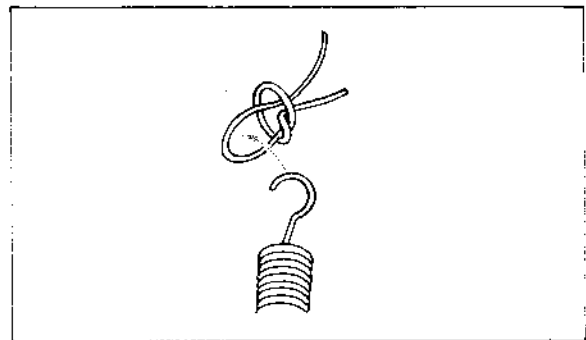

Fig. 2-5. Tying square knot to the coil spring
- Tie the end of the cord to a spring as shown in Fig. 2-5.